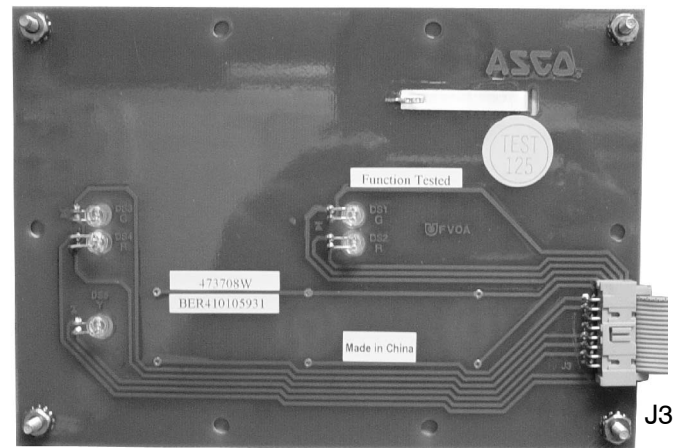

Figure 2. Series 300 ATS operator Interface board mounted on the enclosure door (back view).
## Module Installation – Figures 2 & 3
1. With all power OFF, open the enclosure door. Locate the operator interface (membrane controls) mounted on the inside of the enclosure door. Use a 5/16" nutdriver to remove (counterclockwise) the four hex nuts from the corners of the operator interface. Do not remove the operator interface board (Figures 2 & 3).
3. Connect the new ribbon cable (coming from the Acc. 11BG module upper right side) to the operator interface (J3 lower right side) with the same orientation as the original cable that was moved. See Figures 2 & 4.